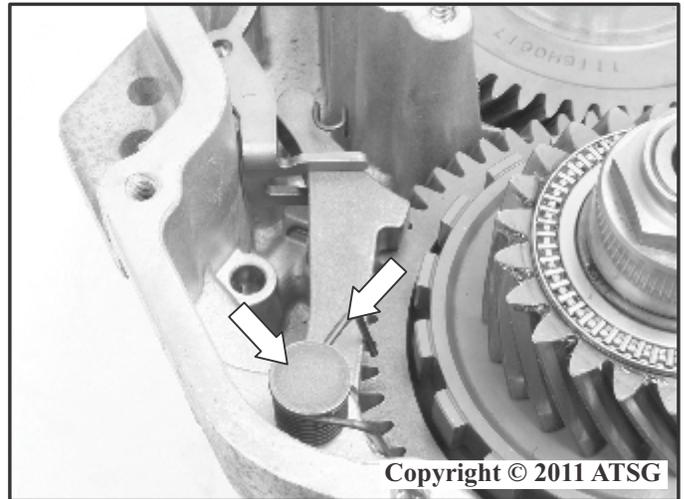

Figure 234
55. Install the parking pawl retaining shaft and the retaining shaft return spring with the spring holding the parking pawl lever against the actuating bracket as shown in Figure 234.